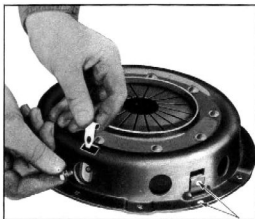

Fig. 5—Removing Retracting Springs
6. Remove the three clutch pressure plate retracting springs, then remove the pressure plate from the Clutch Cover Assembly, Fig. 5. Note the
2. Install the pressure plate in the cover assembly, making sure to mate the two "O" marks as indicated by the arrows shown in Fig. 5—one on the driving lug of the pressure plate and the other on the flange of the cover. This must be done in order to keep the clutch in proper balance.
3. Install the three pressure plate retracting springs. (Refer to Fig. 5.) The clutch is now ready to reassemble to the engine.